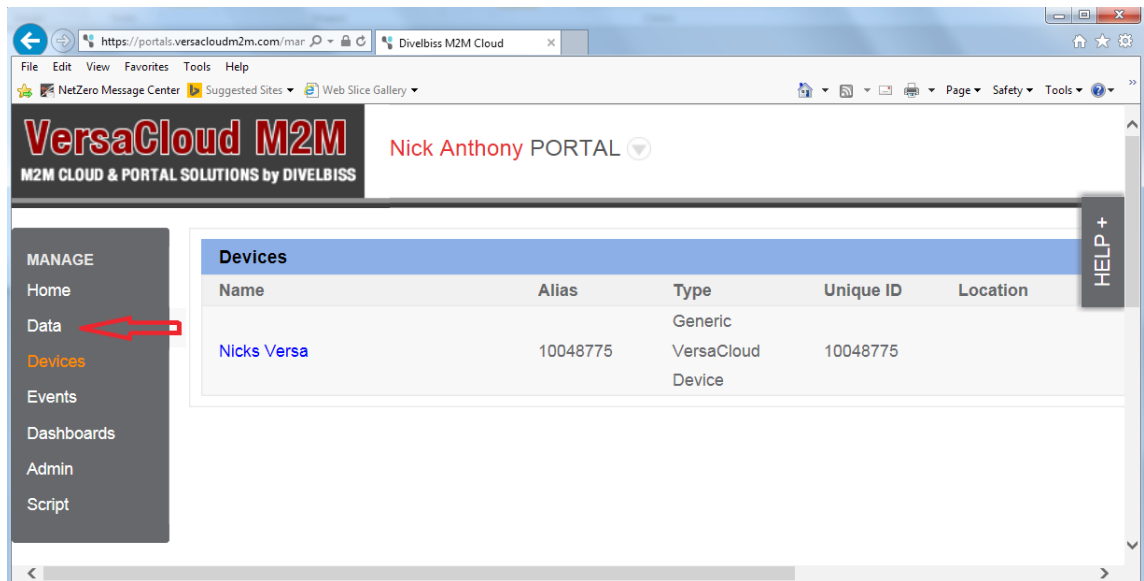
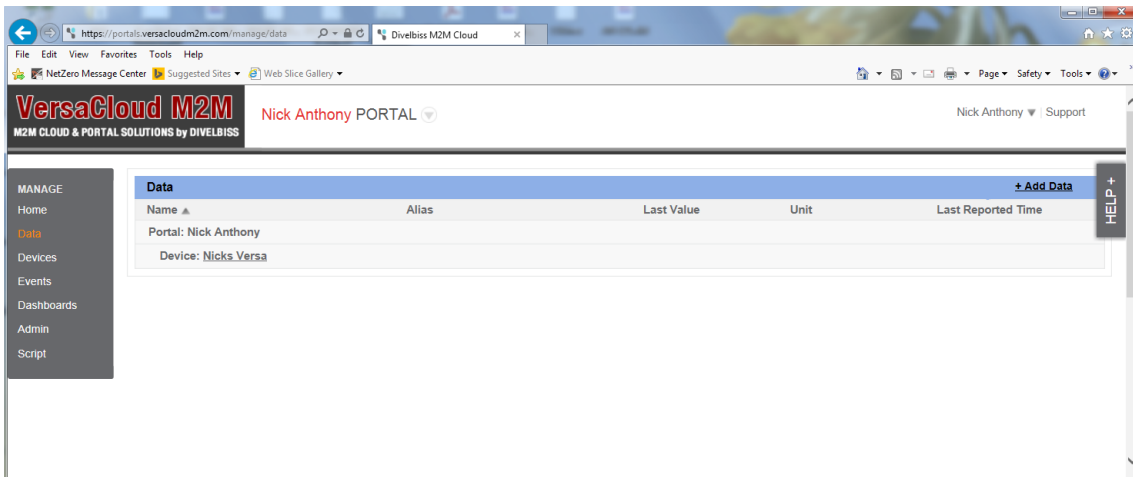

Figure 9 - Select Data Link
Figure 10 - Data Page
3. With the device added to the portal, data points must be added and configured. These points are the data that will transmitted between the device and your VersaCloud M2M portal. Click the **Data** selection located on the dash board page side menu (Refer to Figure 9). The Data page will open. Refer to Figure 10.